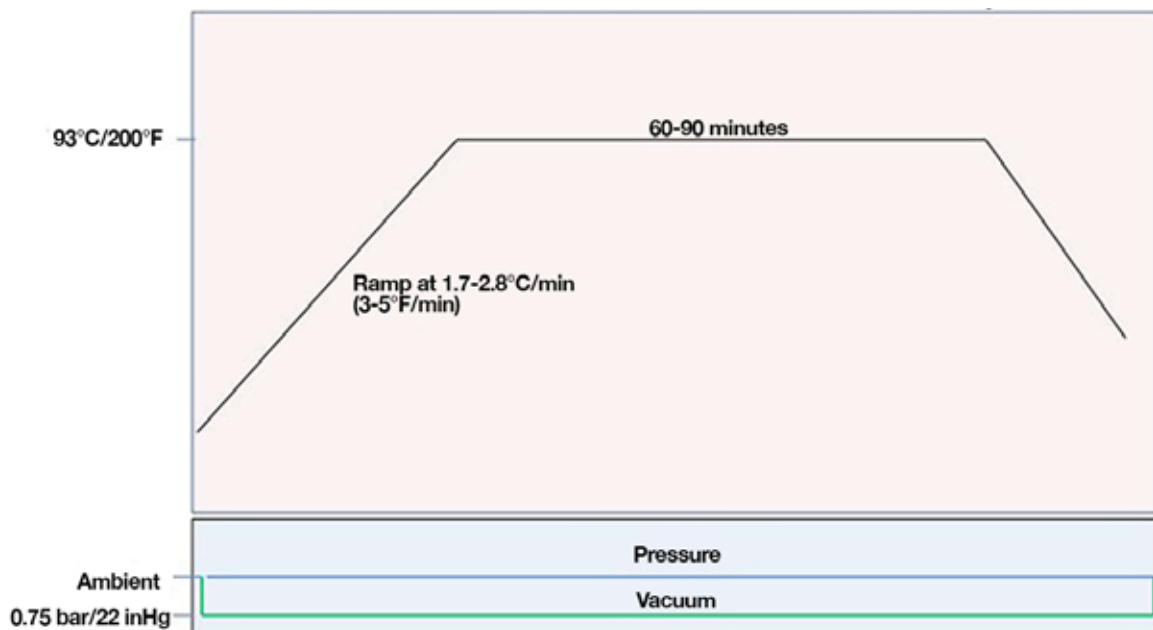

Figure 13
- Oven Temperature Profile* shown in Figure 13.